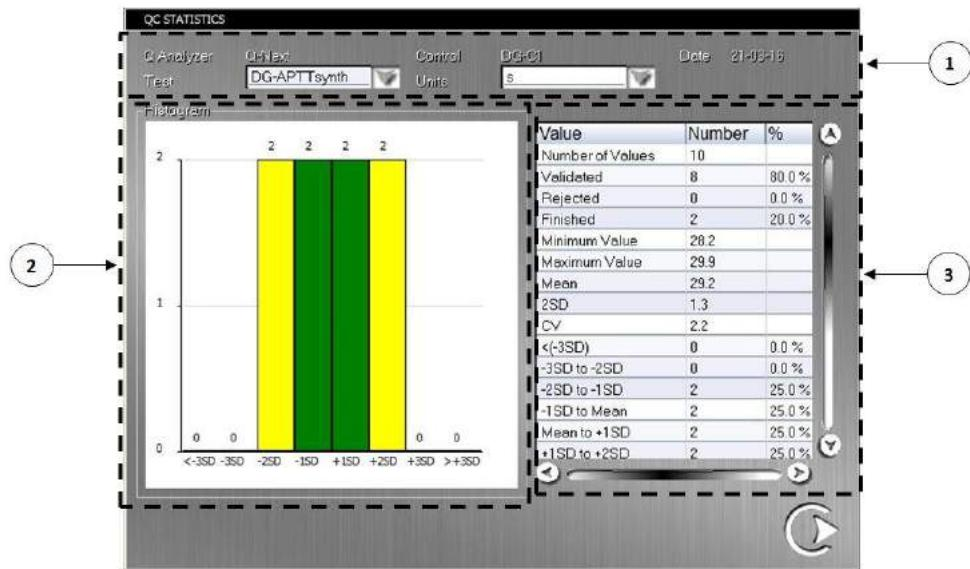

Figure 11.6. Control Statistics Window
- (1) Area for identifying the Control and selecting the Test and the Units to be statistically analysed.
- (2) Chart Area.
- (3) Statistical table of results.
Figure 11.6 shows the **Control Statistics** window which includes a histogram (Figure 11.6, no. 2) showing the number of Controls classified according to whether the distance between the result and the Mean is $+/- 1, 2, 3$ Standard Deviations (SD).
It also includes a table (Figure 11.6, no. 3) with extended statistical information, such as: